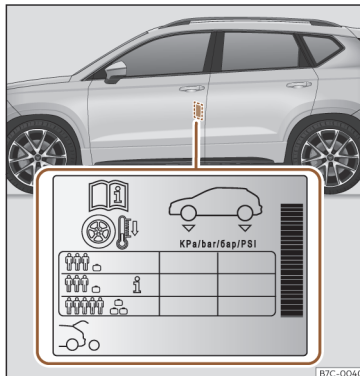

Fig. 207 Location of the tyre pressure sticker.
- Adjust tyre pressure to the load being carried by the vehicle»» **Fig. 207**.
The tyre inflation pressures are listed on a sticker on the rear of the front left door frame»» **Fig. 207**.
Depending on the vehicle, tyre pressure can be adjusted to medium load to improve driving comfort (tyre pressure **i**)»» **Fig. 207**). When driving with comfort tyre pressure fuel consumption may increase slightly.
The tyre pressure must be adjusted according to the load the vehicle is carrying. If the vehicle is going to carry the maximum load, the tyre pressure should be increased to the maximum value indicated on the sticker »» **Fig. 207**.
In the case of a minimised temporary spare wheel (125/70 R18) inflate to a pressure of 4.2 bar as indicated on the tyre pressure label»» **Fig. 207**.
- The driver is responsible for ensuring that all of the vehicle tyres are correctly inflated to the right pressure. The recommended tyre pressure is indicated on the label »» **Fig. 207**.
- When the tyres are cold, tyre pressure should be that indicated on the label »» **Fig. 207**.